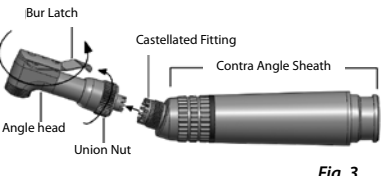

Fig. 3
Removing Angle Heads (Fig. 3)
2. Turn union nut in direction indicated in Fig. 3 to release head.